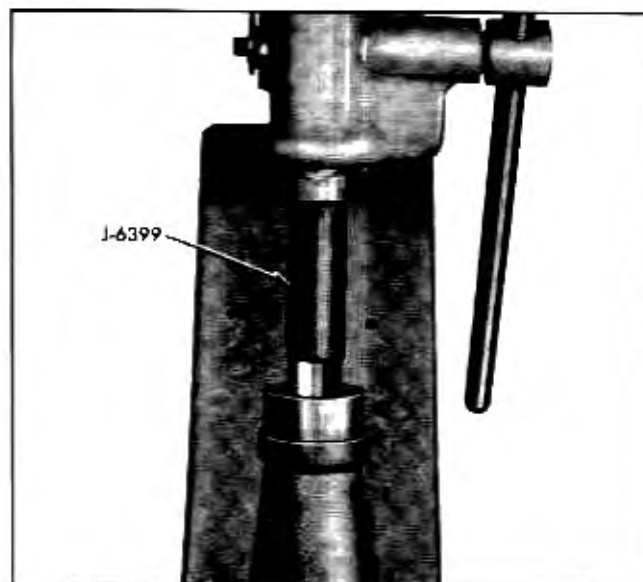

Fig. 7-27 Pressing Bushing Into Rear Bearing Retainer
4. Press new bushing into rear of bearing retainer using Tool J-6399 (Fig. 7-27).